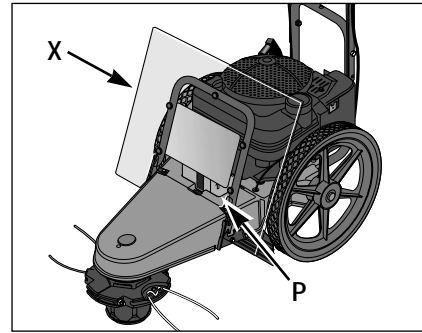
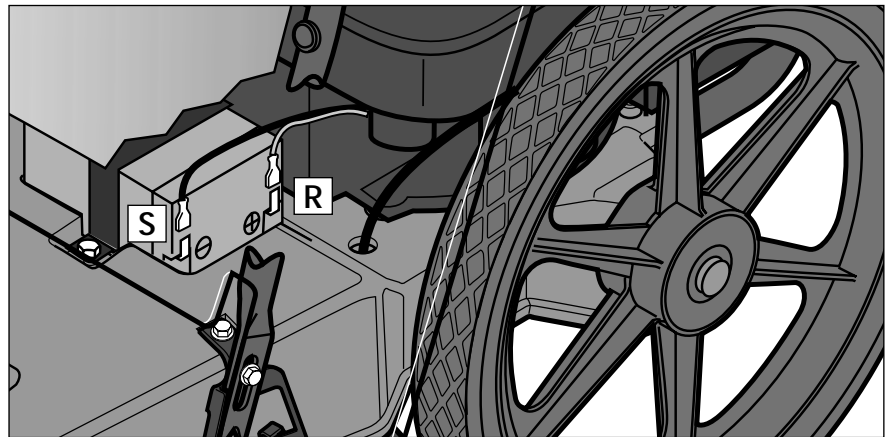

Figure 2-5: Lift and tilt debris shield forward to access battery.
Figure 2-6
1. Lift and tilt debris shield (X, Figure 2-5) forward to view battery (P). Connect the red wire (R, Figure 2-6) to the positive (+) red-coded terminal on the battery. Then, connect the black wire (S) to the negative (-) black-coded terminal on the battery. Close the debris shield (X, Figure 2-5).